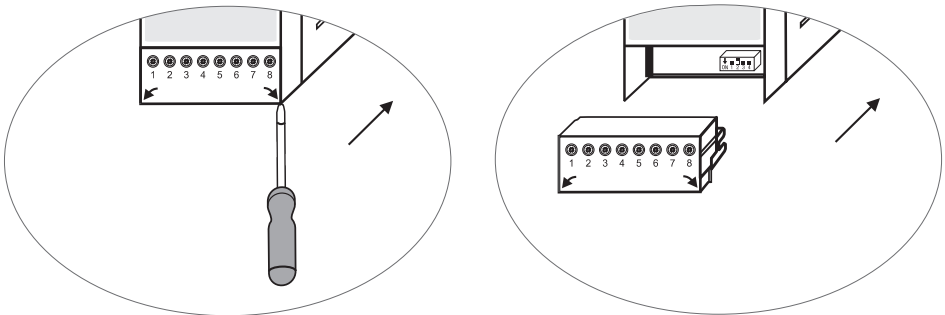

Fig. 8
- Remove the upper and lower terminal strips (Fig. 8)